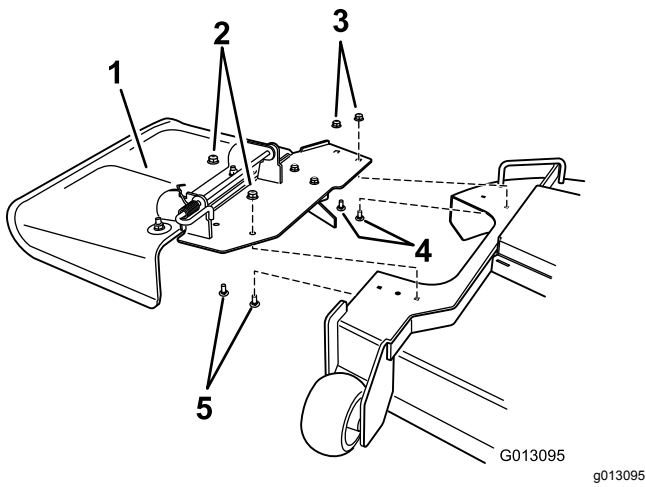

Figure 16
- Remove fasteners that secure the deflector assembly to the mower deck (Figure 16).